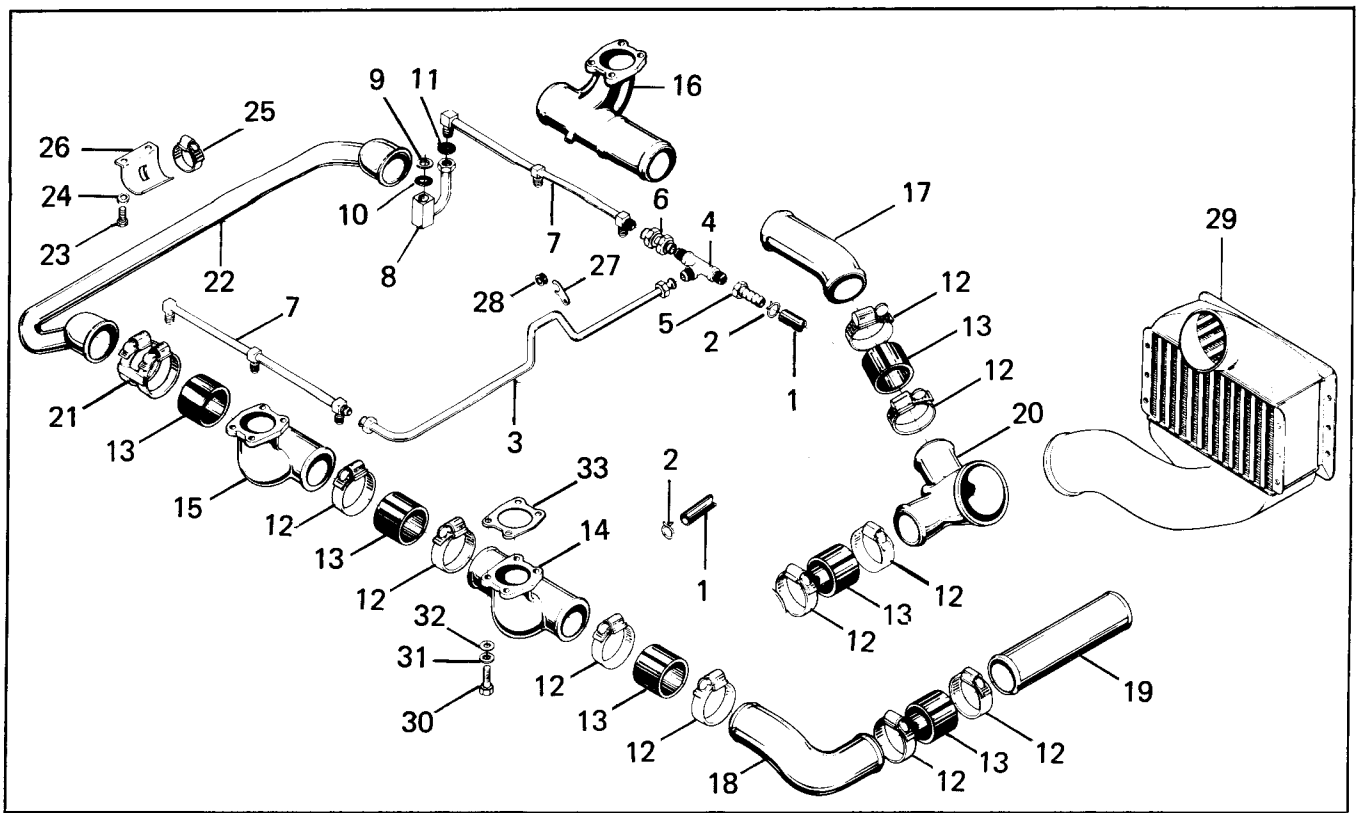

FIGURE 9-5 INDUCTION SYSTEM
c. Figure 9-5. Remove air manifold to throttle body hose clamps (2) and remove hose (1). Remove air manifold tube (3) and separate tee (4) barbed hose fitting (5) and tube assembly (6). Unscrew sleeve nuts and remove air manifold tubes (7). Remove sleeves (8), washers (9) and gaskets (10,11). Remove grommet (28). Bracket (27) will come off when the crankcase halves are separated.
d. Figure 9-5. Invert engine and loosen hose clamps (12,21) and slide them onto adjoining elbows and tubes. Work hoses (13) over beads and remove elbows (14,15,16) tubes (17,18,19) and riser (20).
e. Figure 9-5 Remove balance tube clamp (25) and attaching parts (23,24) and remove clamp (26) and balance tube (22).